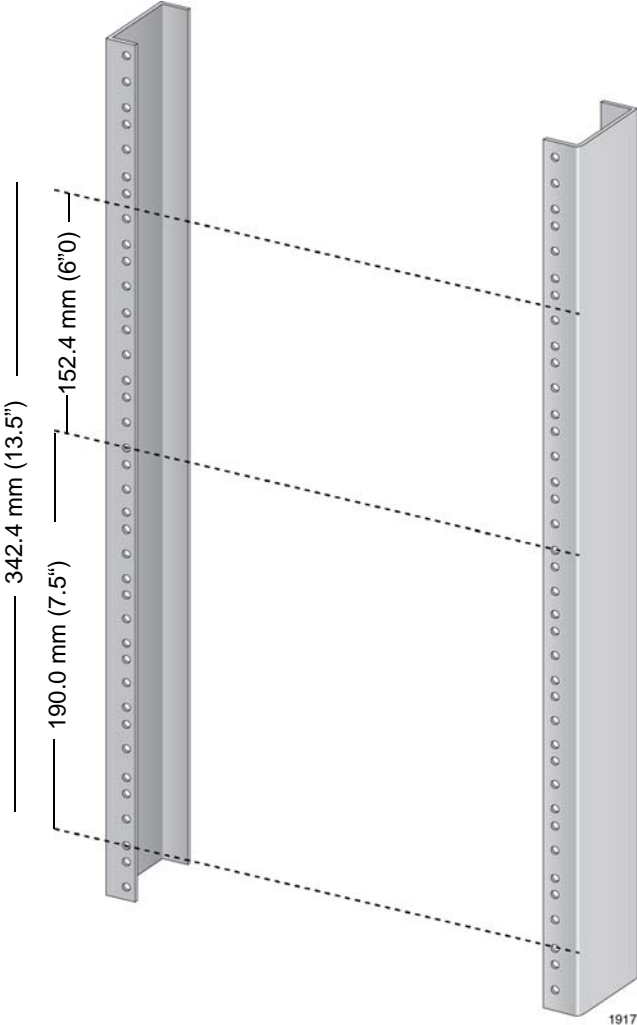

Figure 33. Reserving Vertical Rack Space
1. Reserve 190.0 mm (7.5") of vertical rack space for the installation of the AT-SBx8106 Chassis, as shown in Figure 33 on page 104.